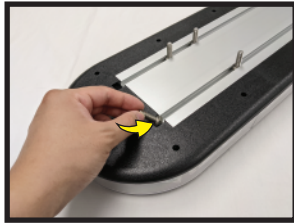

Figure 1
Step 1: Flip the light bar upside down & slide [M8 - 30mm Hex Bolt] x4 into their relative positions as shown in Figure 1.